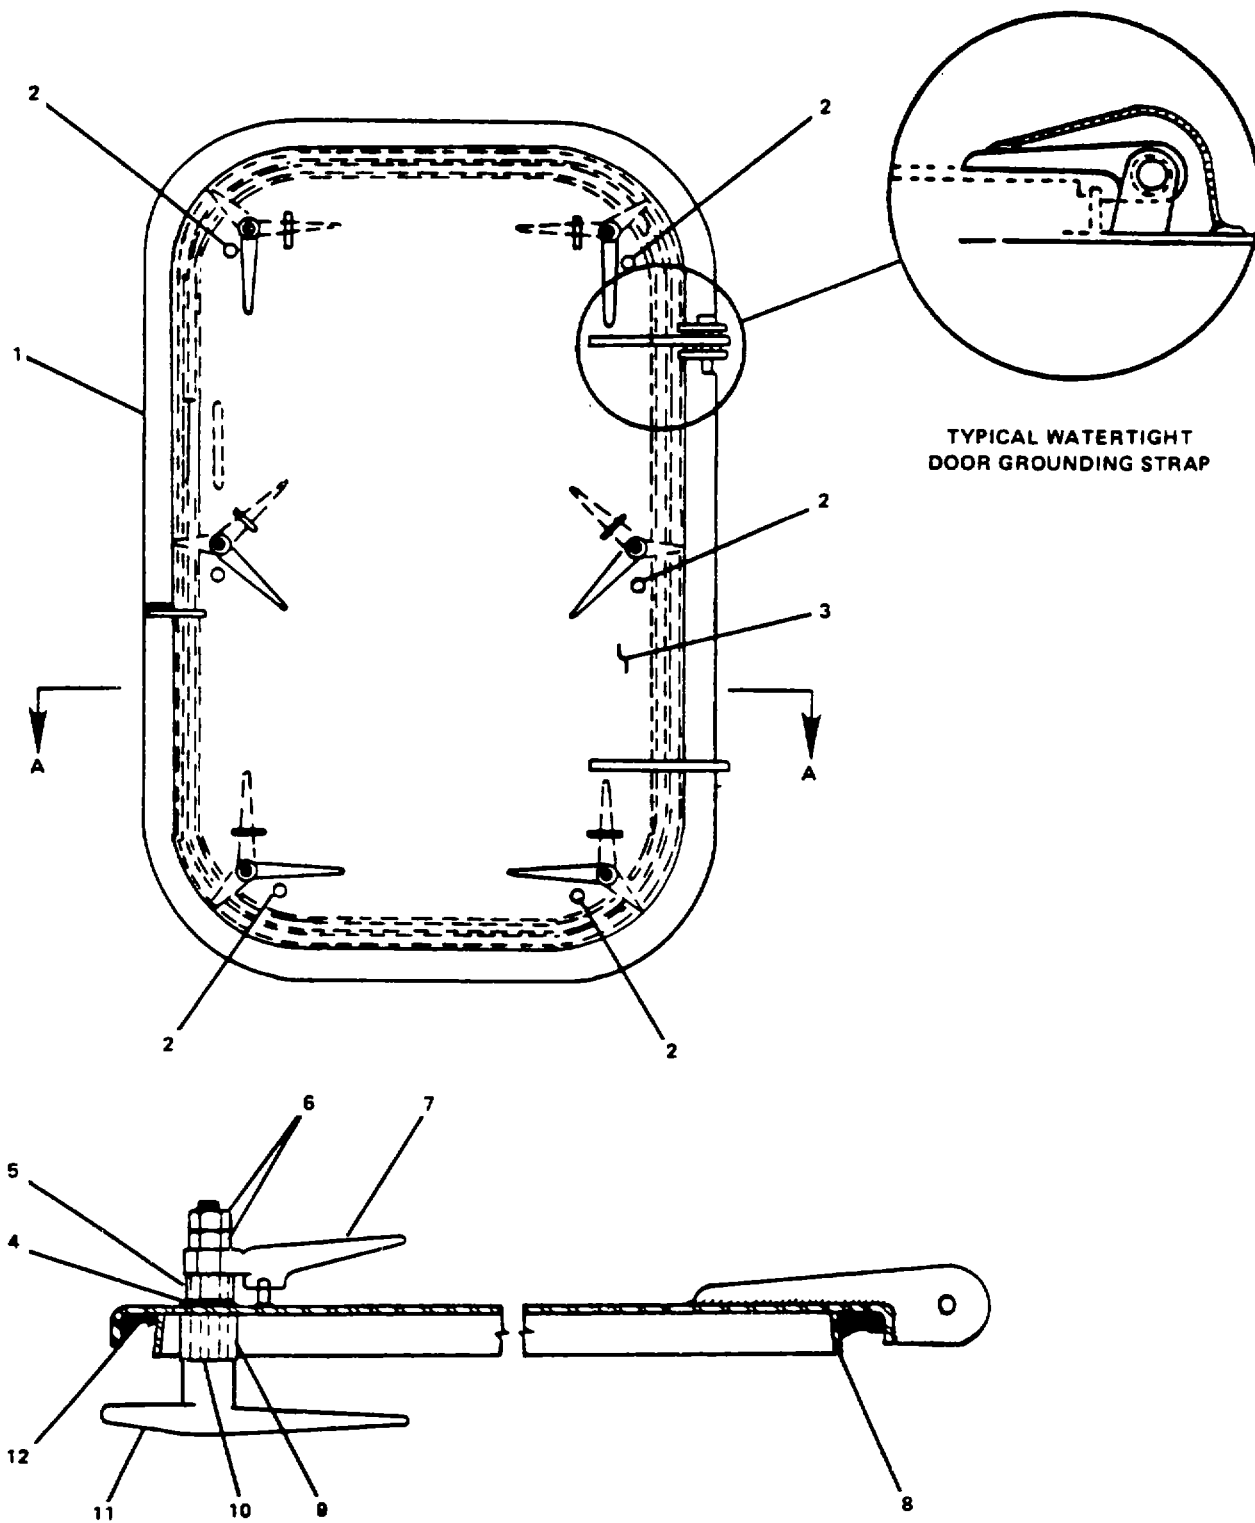

Figure 2-30. Repair Watertight Door. Six Dogs.
b. Open door (1).
c. Remove cotter pins (5) from cylindrical pins (3).
d. Remove cylindrical pins from hinge blades (2). replacement of gasket (12, Figure 2-30), pre-
e. Remove flat washers (4) then remove door (1).
a. Remove hex nuts (6, Figure 2-30) and handles (7) from door (1)
b. Remove bronze bushing (5) and preformed packing (4) from door.
c. Remove dog door closer (11) from door.
d. Remove shim (10) and pipe sleeve (9) from door.
e. Remove gasket (12) from door.
Repair at this level of maintenance is by replacement of gasket (12, Figure 2-30), preformed packing (4) and oilite bronze bushings (8).